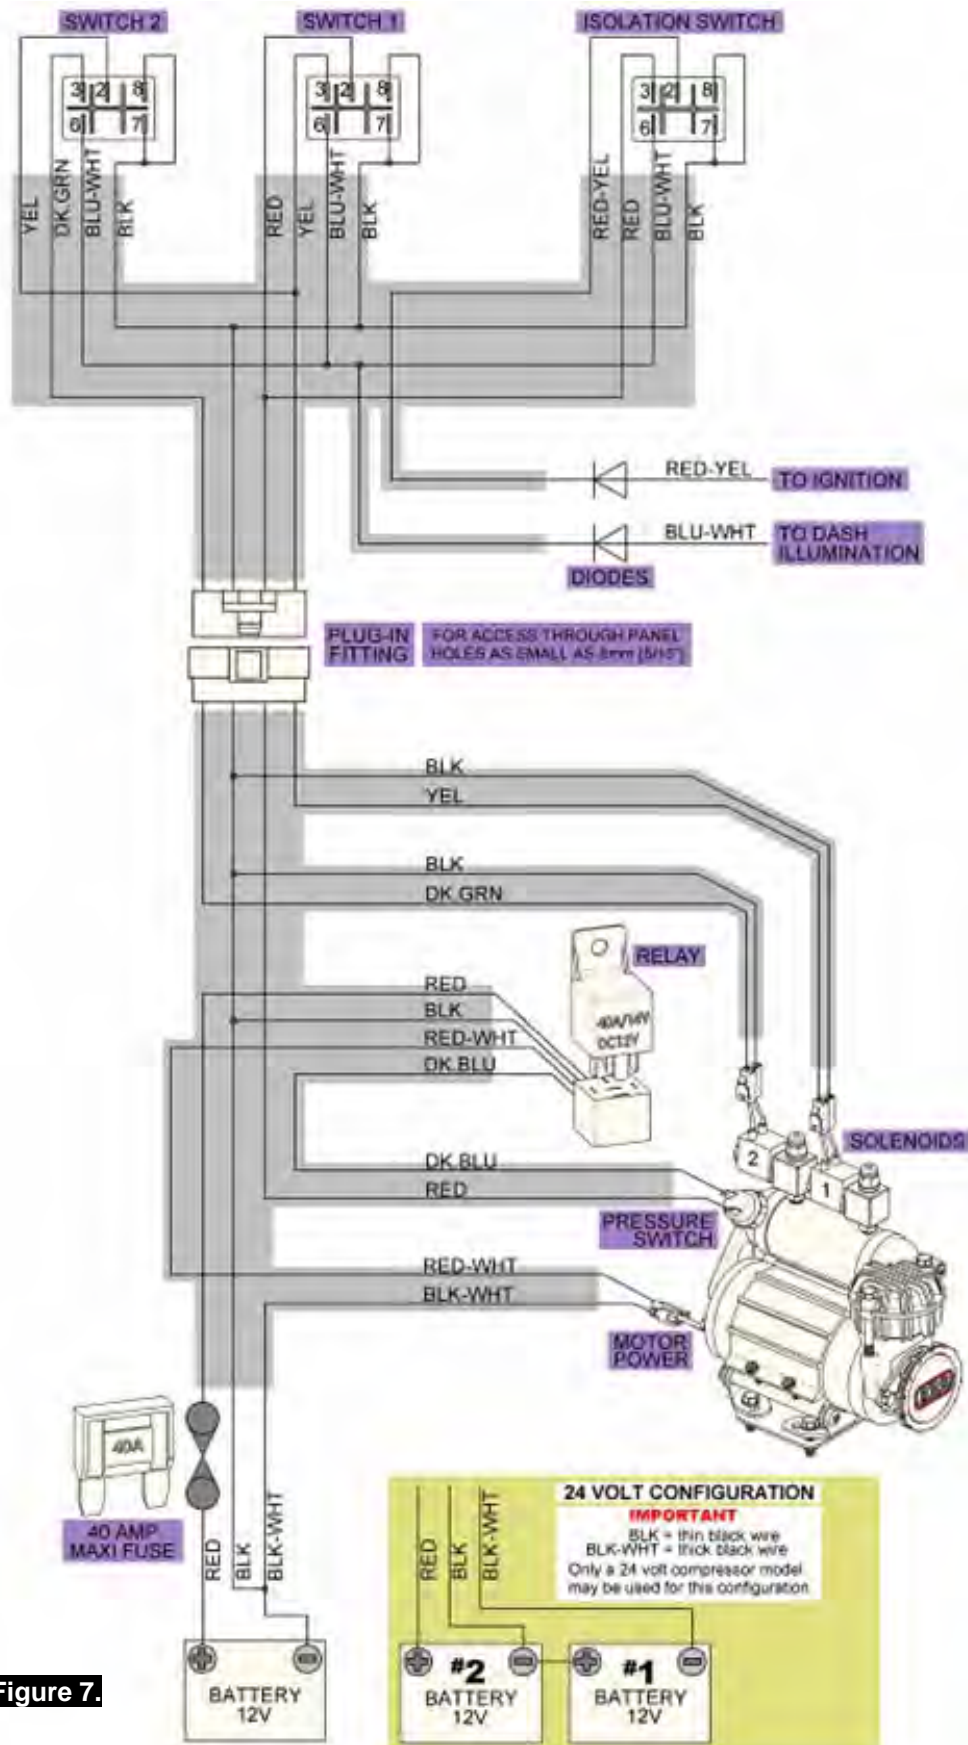
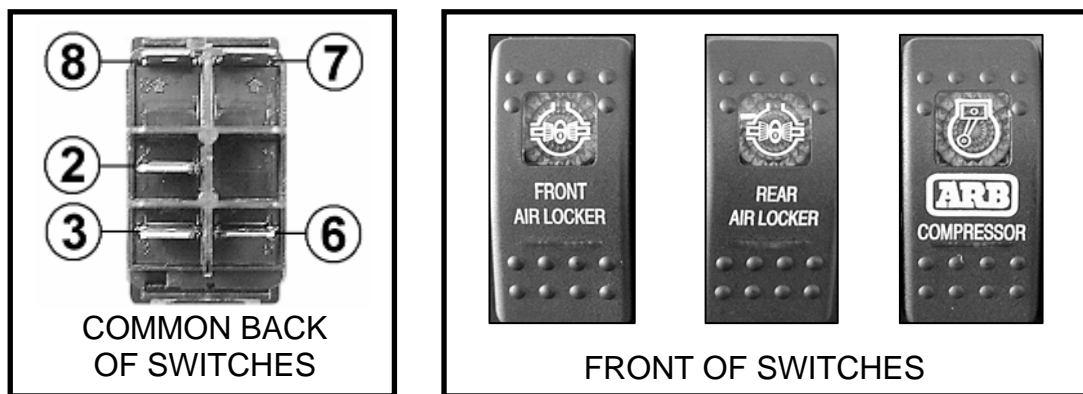

Figure 7.
Figure 8.
When wiring an ARB compressor switch, *Air Locker* pressure switch, *Air Locker* actuator switch(es) and *Air Locker* solenoid(s) to an ARB Air Compressor, all connections can easily be set up using only the supplied wiring loom (ARB #180409 shown in Figure 7.)
- ☐ Consulting the wiring diagram (Fig.7.) for wire colors, and the switch terminal illustration (Fig.8.), plug each of the female spade terminals onto their appropriate switch terminal.
- ☐ Identify which battery in the system will be used as the 24V negative (-) terminal (i.e., Battery #1 in the wiring diagram Fig. 7.) by connecting a multimeter across the positive (+) terminal of one battery to the negative (-) terminal of the other battery. If you have tested the correct negative (-) terminal then you will read approximately 24 volts on the multimeter, and this battery will be battery #1, and the other battery with the positive (+) terminal you have just tested will be battery #2 (refer to wiring diagram Fig. 7.).
The following describes an effective procedure for tracing an electrical fault in a CKMA12 or CKMA24 compressor which has been wired using a genuine ARB wiring loom (refer to the diagram in Figure 7.). All steps must be performed in the order listed here for an accurate assessment.